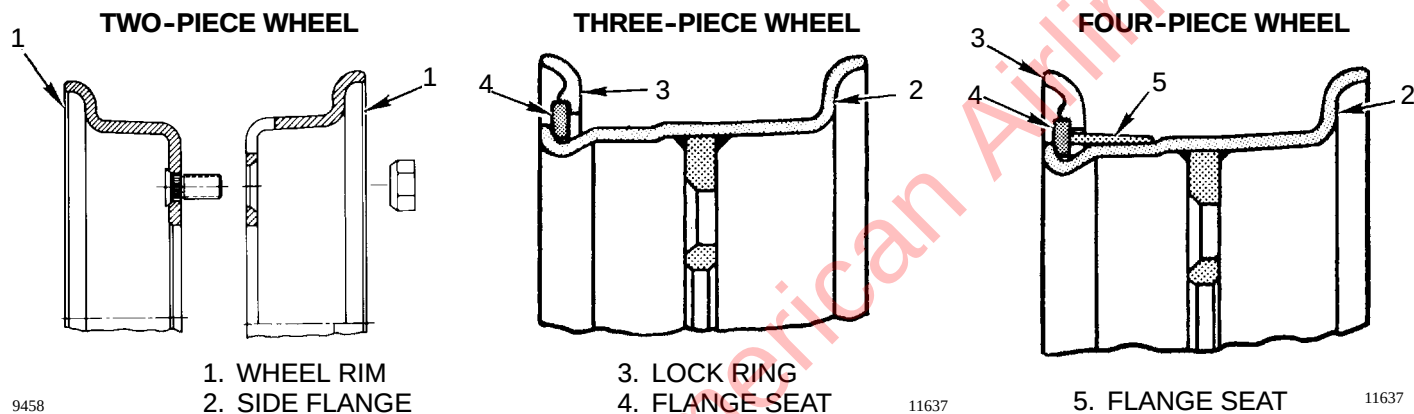

FIGURE 30. TYPES OF WHEELS
**NOTE:** When the wheels are disassembled, see FIGURE 30. There are several types of wheels used on these series of lift trucks.